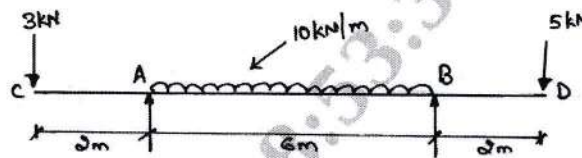

Fig.Q4(c)
- c. Draw SFD and BMD for the beam shown in Fig.Q4(c) showing the salient points.